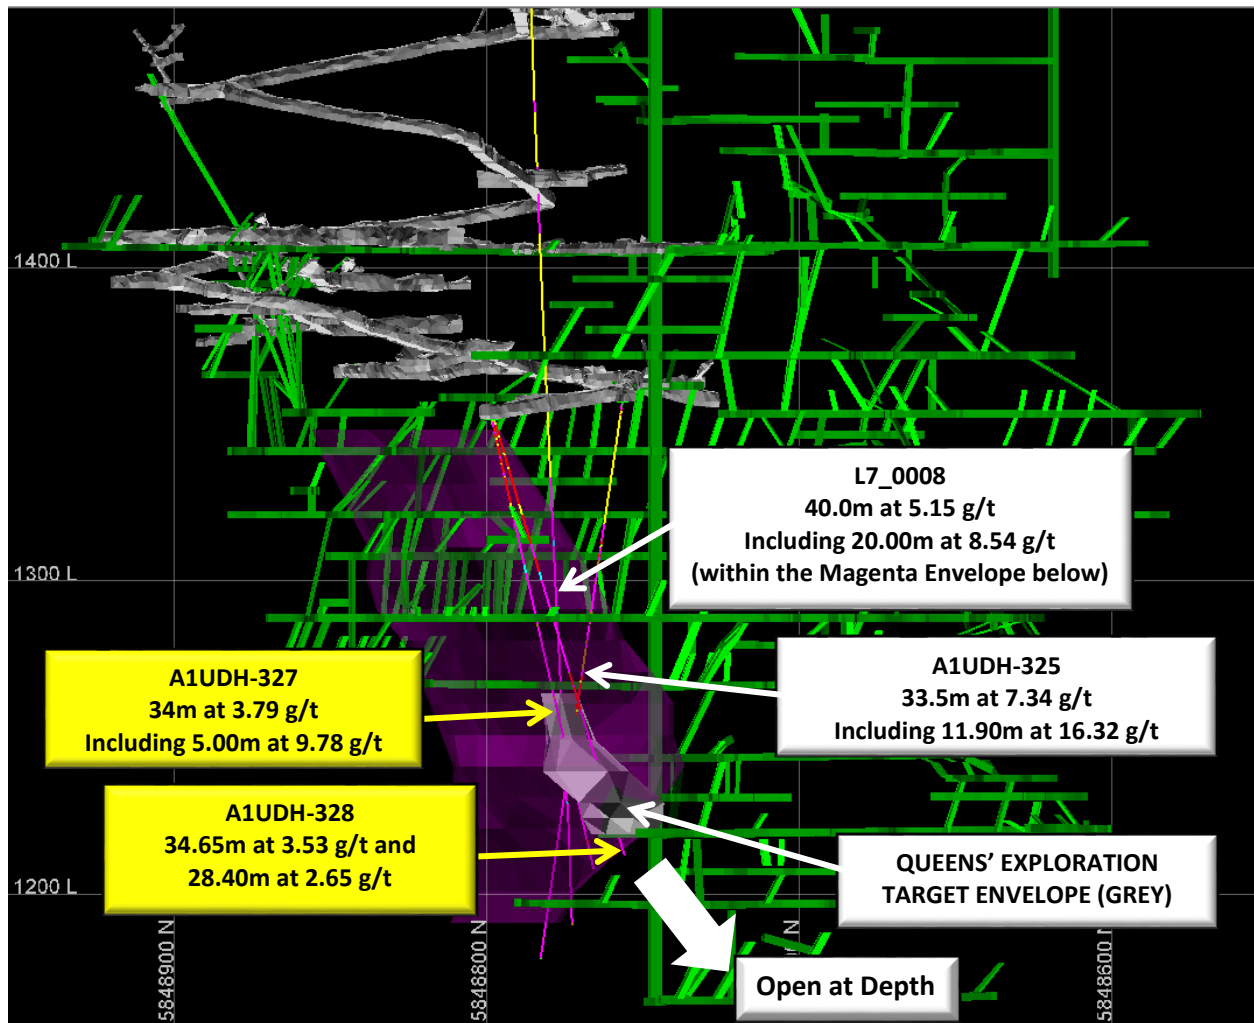

Figure 1: Long Section showing the Magenta Zone and drill collar locations of A1UDH-327 and A1UDH-328.
Following the announcement of results of diamond drill hole A1UDH-325 which intersected the Queen's Exploration Target of **33.5m grading 7.34 g/t Au, including 11.9m grading 16.32 g/t Au** (2), the diamond drill rig was relocated approximately 50m further north, at the end of the present A1 Gold Mine's decline, to provide a different core angle and drilling direction down to the Queen's target area (Figure 1). This location is close to the Victory North Exploration Target, however, before commencing the programme to define Victory North, two deeper holes targeting the Queens Exploration Target were drilled.